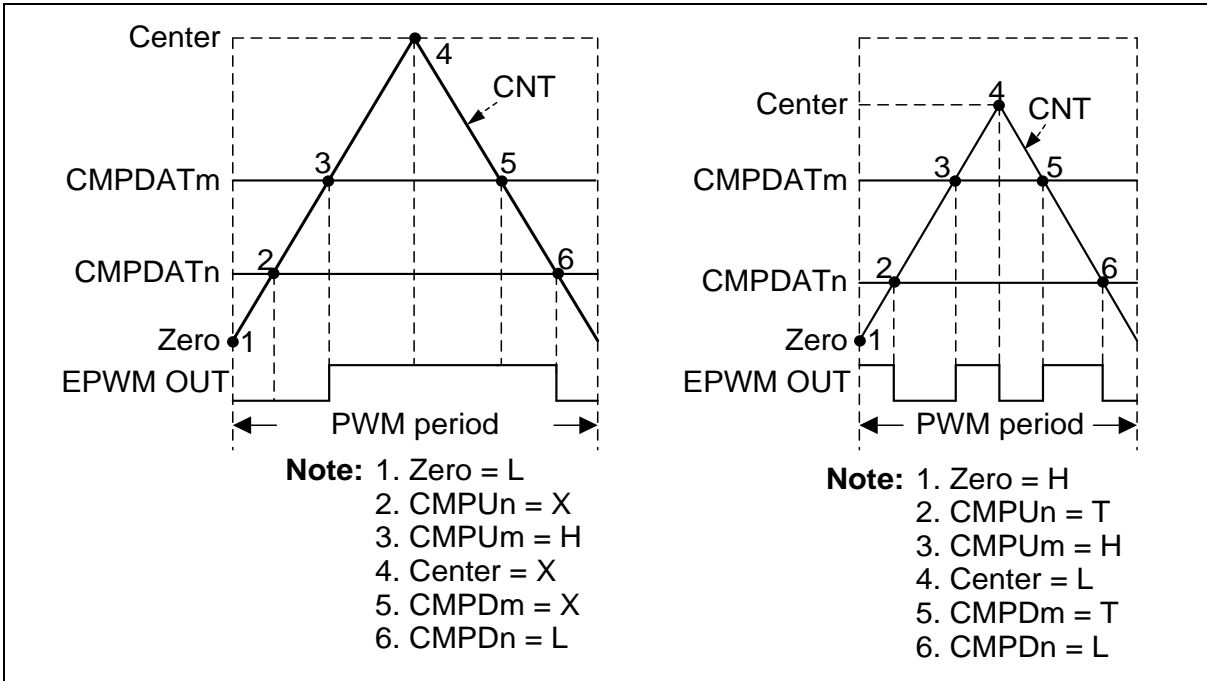

Figure 6.14-18 EPWM Pulse Generation
Each event point can decide EPWM waveform to do nothing (X), set Low (L), set High (H) or toggle (T) by setting the EPWM\_WGCTL0 and EPWM\_WGCTL1 registers. Using these points can easily generate asymmetric EPWM pulse or variant waveform as shown in Figure 6.14-18. In the figure, EPWM is in complementary mode, there are two comparators n and m to generate EPWM pulse. n denotes even channel number 0, 2, or 4, and m denotes odd channel number 1, 3, or 5. n channel and m channel are complementary paired. Complementary mode uses two channels (CH0 and CH1, CH2 and CH3, or CH4 and CH5) as a pair of EPWM outputs to generate complement paired waveforms. CMPU denotes CNT(EPWM\_CNTn[15:0]) is equal to CMP(EPWM\_CMPDATn[15:0]) when counting up. CMPD denotes CNT bits is equal to CMP bits when counting down.